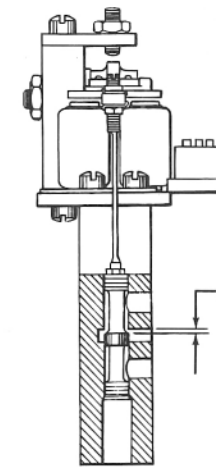

Figure 14. Space Valve Start Position
4. With the space start magnet energized, adjust the nuts at the top of the operating rod for .009" to .011" clearance between the top of the valve and the top surface of the rectangular port in the valve body (Figure 14).